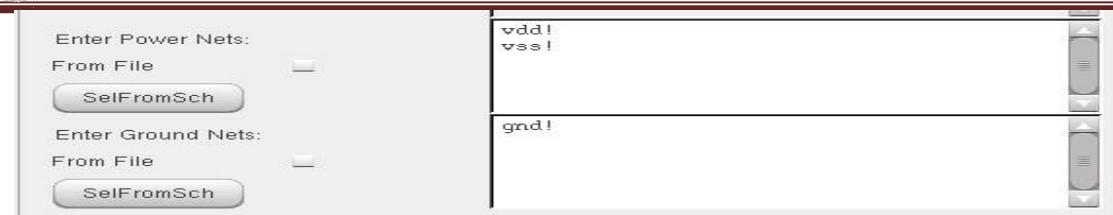

Figure1.27: Parasitic extraction Run Form
4. In the Filtering tab of the form, Enter Power Nets as vdd!,vss! And Enter Ground Nets as gnd! As shown in figure1.27